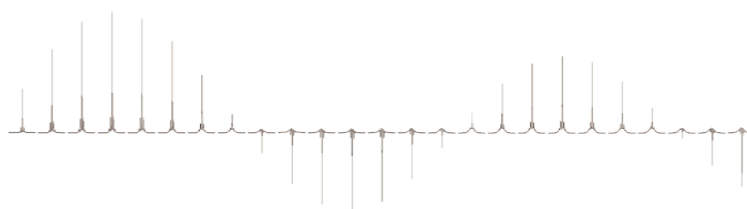

Figure 88. CPMAS pwX90 for $4.0 \mu\text{s}$ ^1H 90-degree pulse
23. Readjust the value of **aX90** to obtain a ^1H 90-degree ^1H pulse **pwX90** equal to the ^{13}C pulse specification, see **Figure 88**.